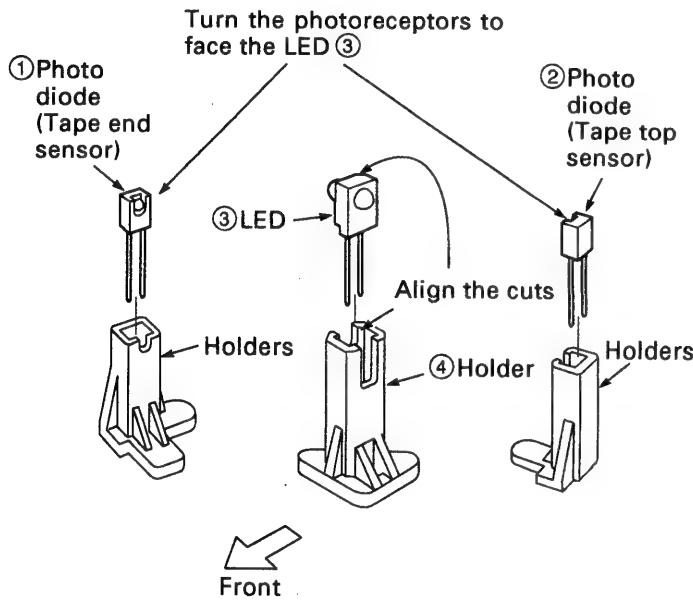

Fig.3-18-1
### 3-18-1 TAPE TOP SENSOR AND TAPE END SENSOR (See Fig.3-18-1)
1. Fit the photo diodes ① and ② so that their photo-receptors to face the LED ③, as shown in Fig.3-18-1. Align the cuts in the LED ③ and the holder ④. Push the photo diodes ①, ② and the LED ③ as far down as they will go, so that they do not protrude above the top of their holders.